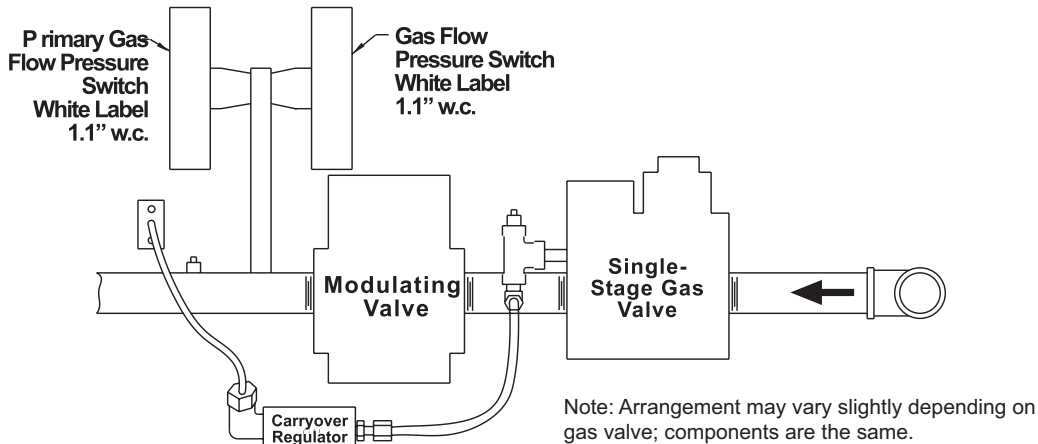

Figure 16. Options AG39, AG40, AG41, and AG42 Manifold Arrangement
- The gas train (see Figure 16) includes a single-stage gas valve, a modulating valve, and two gas pressure switches. The burner rack is equipped with one flash carryover and a regulated gas lighter tube system. The carryover lighter tube receives its gas supply through the regulator simultaneously with the gas to the burner. Control of the system is through a Maxitrol amplifier (see Figure 15) with a corresponding remote temperature dial.